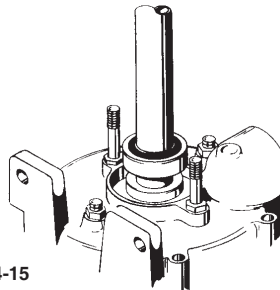

Figure 4-15
25. Solidly supporting the bottom end of the shaft, drive or press a ball bearing (#24) onto the shaft until it rests firmly against the shoulder on the shaft. (refer to figure 4-15) A sleeve properly sized to contact only the inner bearing race will be helpful for this operation.